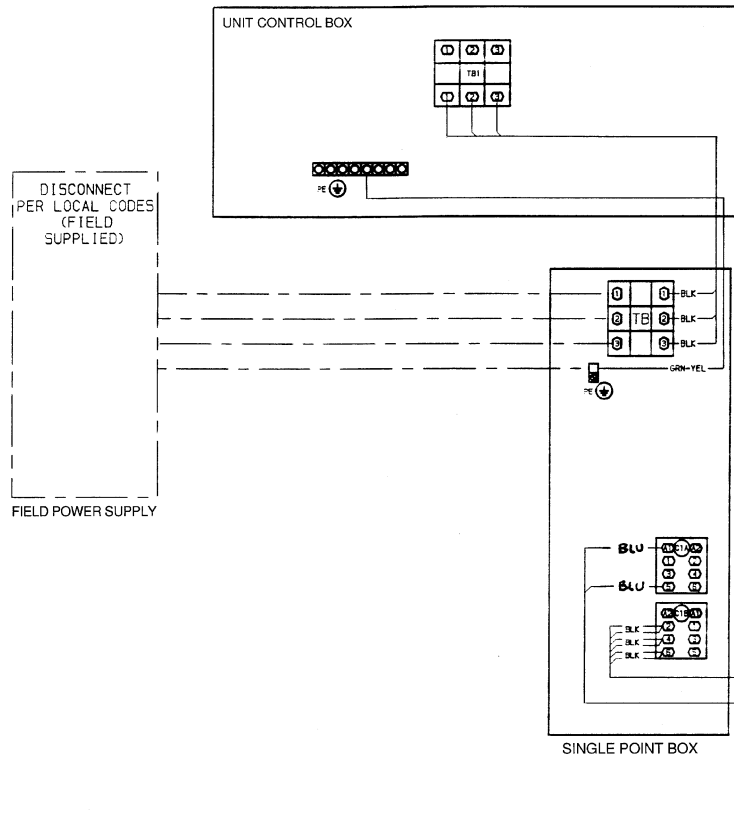

Fig. 6 — Electric Heater Power Wiring Connections — Single Module Heat Option
10. Refer to Fig. 6 and 7 to determine appropriate power wiring figure for wiring single point box. See Tables 1-3 for electrical information.